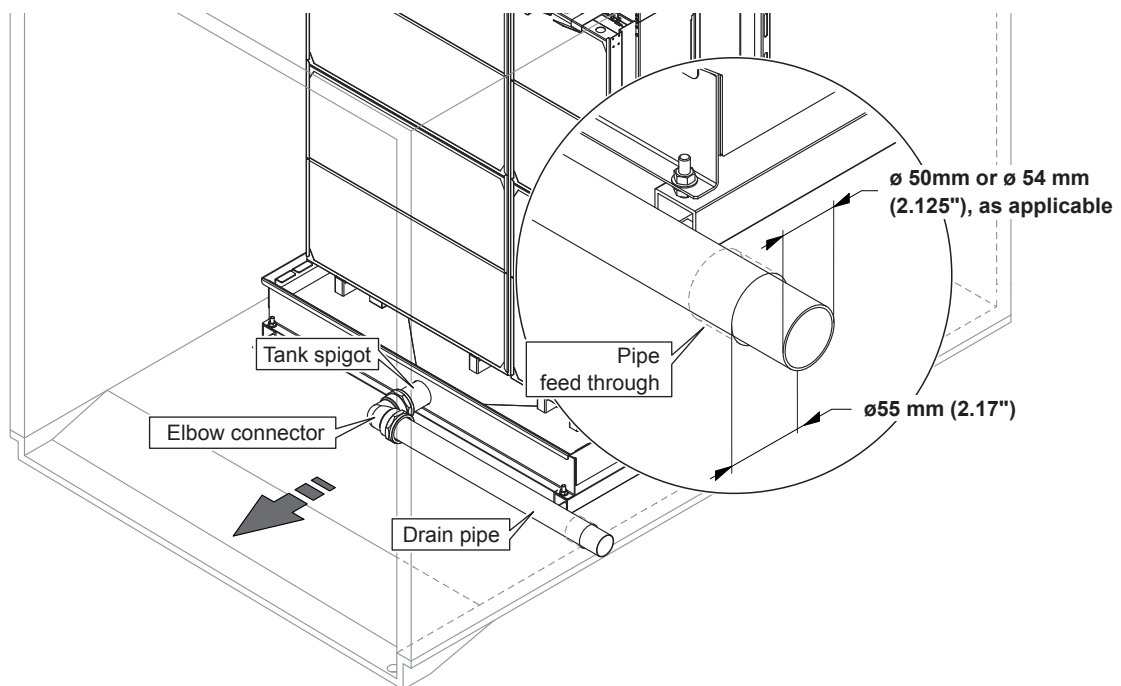
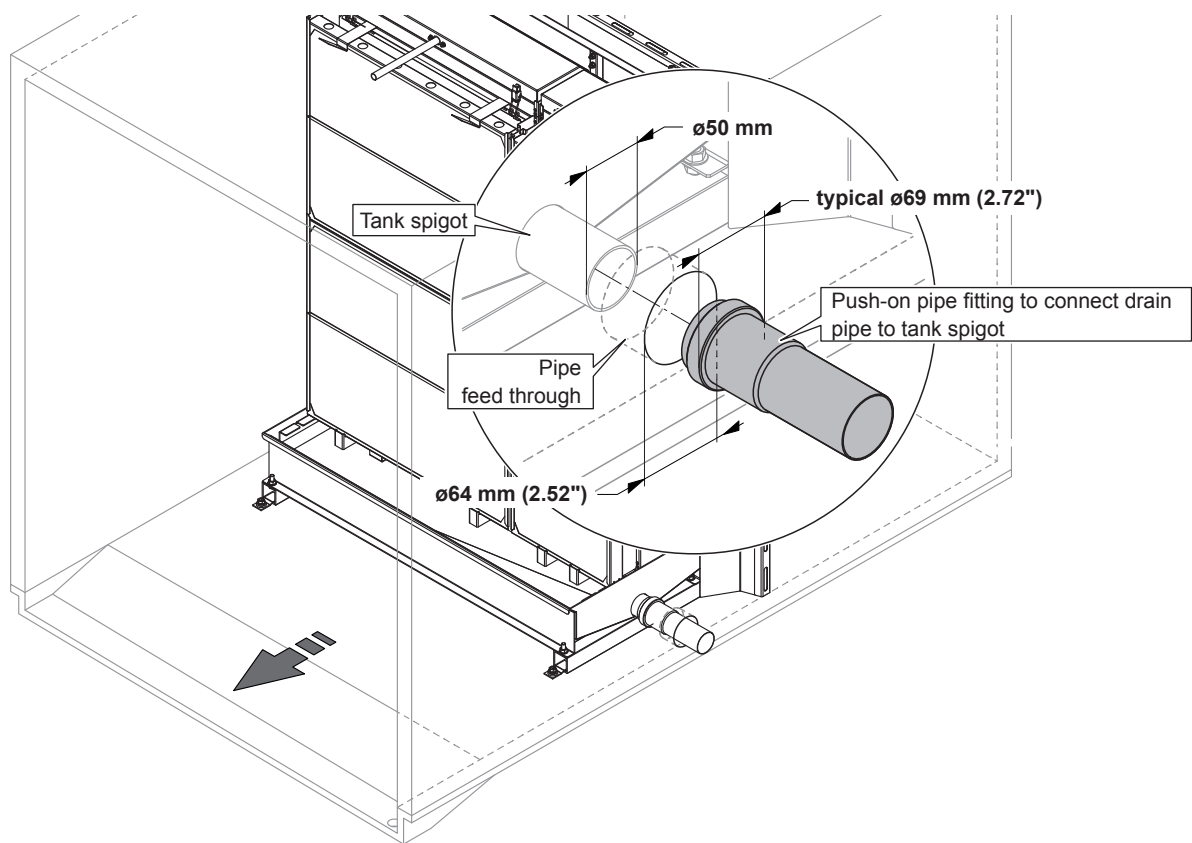

Fig. 29: Drain connection on tanks with central drain
Fig. 30: Drain connection on tanks with side drain
- Access hole for the drain pipe through the duct/AHU must be provided by the customer (see Fig. 29 and Fig. 30).